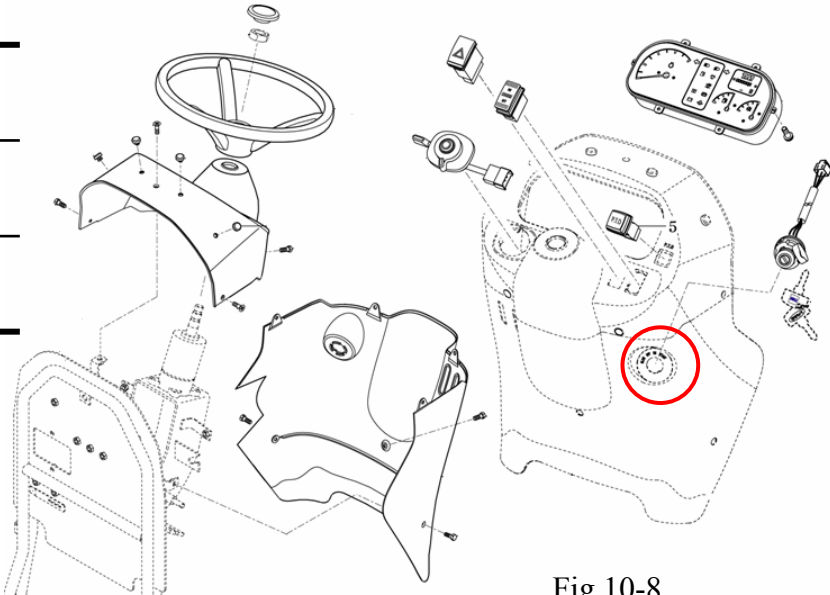

Fig.10-8
(1) Removal
- c. Pull out the key switch as shown in Fig.10-8